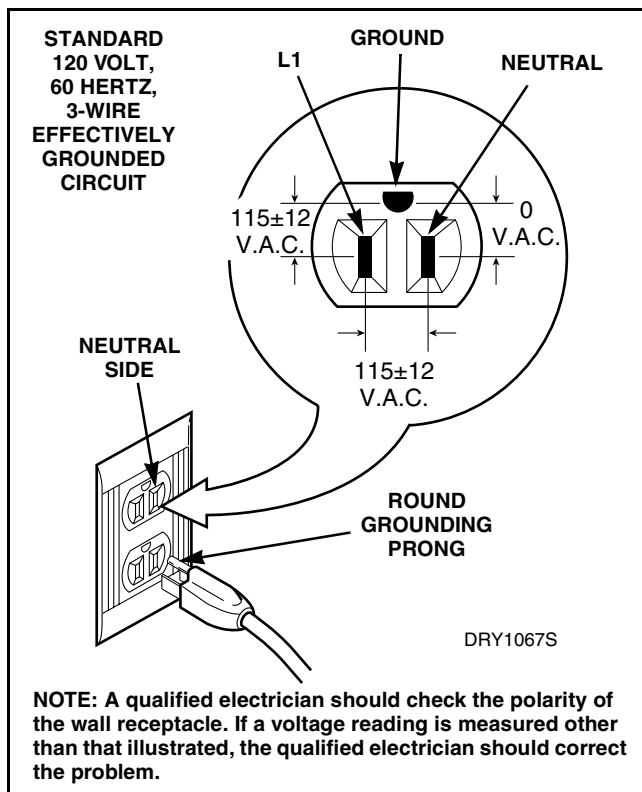

Figure 57
- b. The three-prong grounding plug on the power cord should be plugged directly into a polarized three-slot effectively grounded receptacle rated 110/120 Volts AC (alternating current) 15 Amps. Refer to *Figure 57* for determining correct polarity of the wall receptacle.